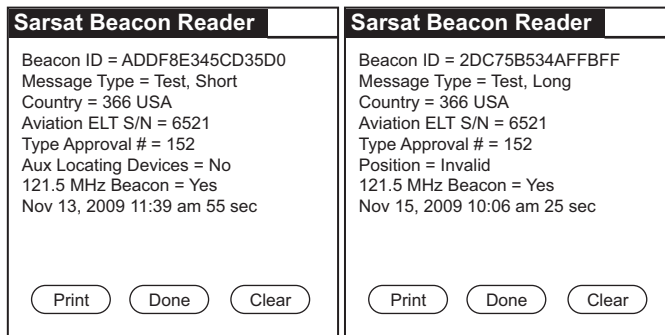

Figure 10 Short and Long 406 MHz Message Examples
- (2) Activate the ELT by placing the control switch in the "ON" position.
- (3) Allow the ELT to transmit for approximately 5 seconds.
- (4) Deactivate the ELT and read the test message broadcast at "turn-off". Message examples are shown in Figure 10 Short and Long 406 MHz Message Examples on page 40.
- (b) The left hand example in Figure 10 Short and Long 406 MHz Message Examples on page 40 is an ELT programmed for "User Protocol ELT with Serial Number", with a test Hex ID. The right hand example is an ELT programmed for "Standard Location Protocol ELT with Serial Number".
- (d) If the ELT is programmed with a location (long message) protocol and disconnected from the aircraft navigation system or interface device, the message will indicate "Position Invalid" in lieu of position data, as shown in the right hand example in Figure 10 Short and Long 406 MHz Message Examples.
- (5) Repeat the activation and deactivation cycle if the ETS fails to read the message on the initial try. The 406 MHz oscillator may not be warmed up. If continued attempts to read the message fail, check for self-test error codes and refer to Table 6 on page 42.